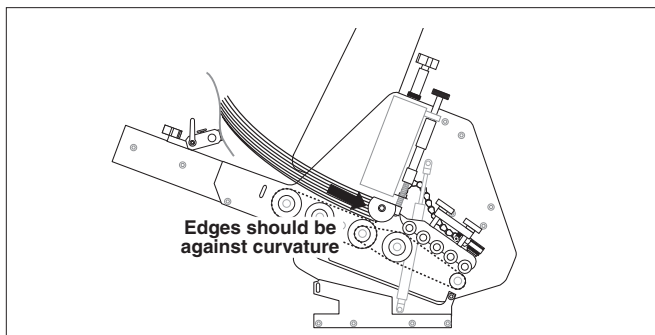

Figure 3-1. Placing Product Against Gate Assembly
2. With one end of the stack resting against the gate assembly, the other end will be resting on the back wedge (Figure 3-1).